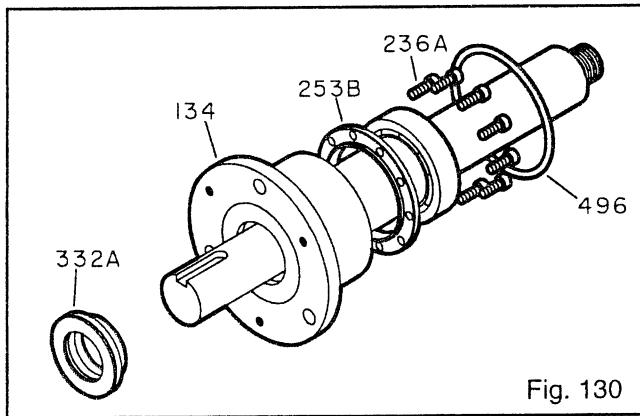

Fig. 130
10. Install clamp ring (253B) with bolts (236A). Tighten bolts in a criss-cross pattern. Check shaft for free turning. Refer to *Table 9* for bolt torque values (Fig. 130).
11. Install new O-ring (496).
12. Install outboard labyrinth oil seal (332A) into bearing housing (134). It is an O-ring fit. Position the labyrinth seal drain slots at the bottom 6 o'clock position (Fig. 130).